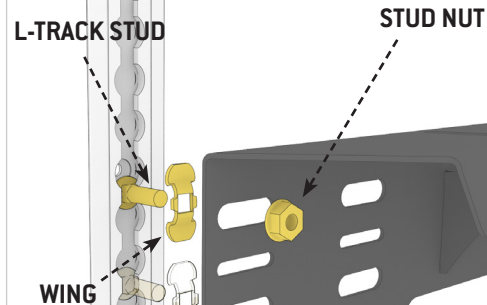

FIG 2
2.2a Raise bed rails up to L-Track, align mounting slots to desired location and insert L-Track Studs to corresponding L-Track Key Ways (**FIG 2**). Secure L-Track Stud with Wing.